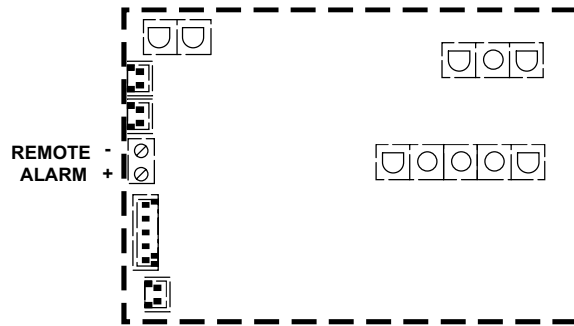

FIGURE 2
2. Connect the alarm circuit to the terminal block (See Figure.2).